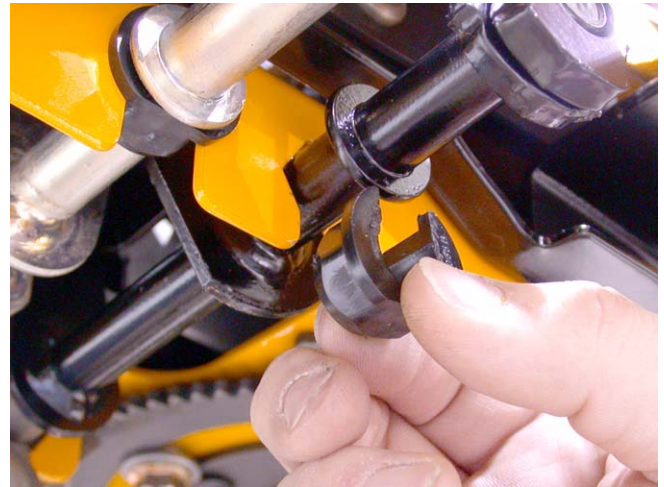

Figure 20.6
20.6. Press the brake pedal shaft as far outward as possible, and pry the worn bushing out of the bracket. See Figure 20.6.